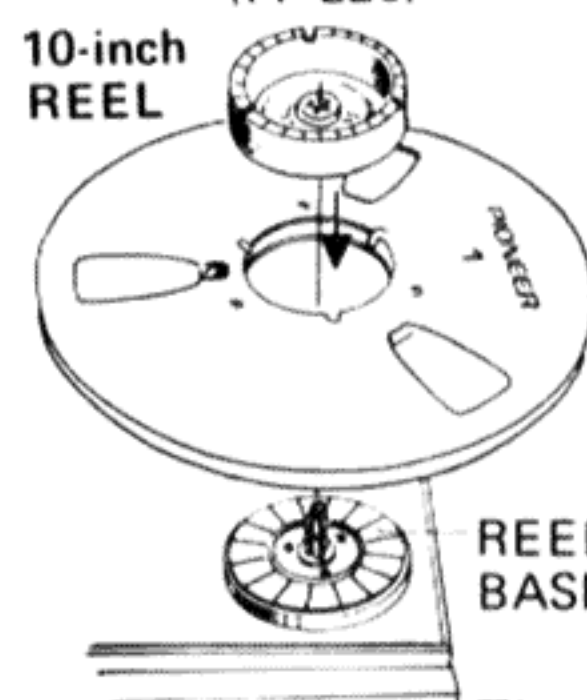

Fig. 8
1. Place the full reel on the left reel base, the empty reel on the right base. When using the supplied or similar 10-inch reels, you also need the supplied reel adaptors. See Fig. 8. These adaptors are not needed with 7-inch or smaller reels.